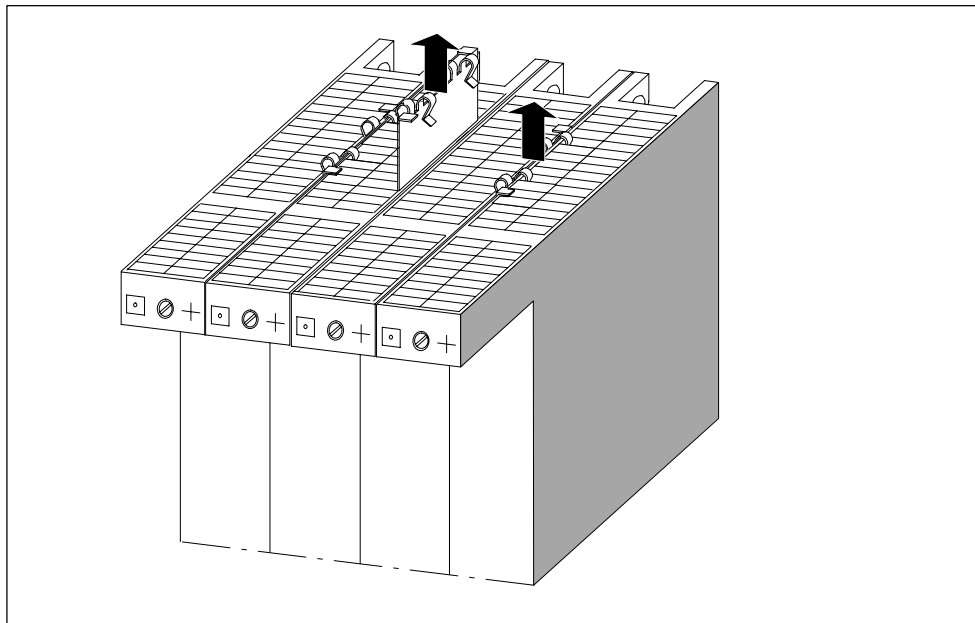

Figure 8-26 Removing the Connecting Clips from the Module to be Replaced
10. Remove the connecting clips, top and bottom, from the module to be replaced (as shown in Figure 8-26).